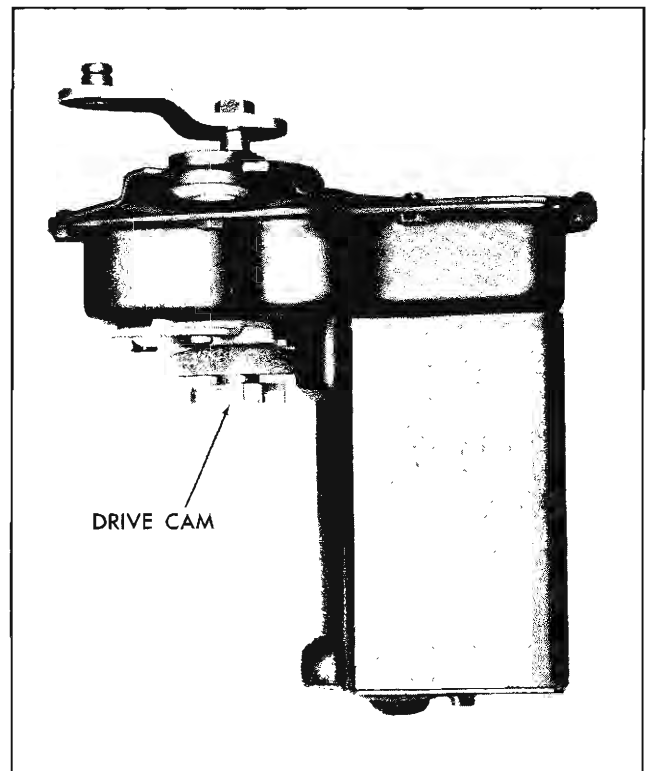

Fig. 11-67 Washer Pump Drive Cam
2. Remove sintered iron washer pump drive cam as required (Fig. 11-67). The cam is pressed on the shaft but can be wedged off by using two screwdrivers between cam and plate.